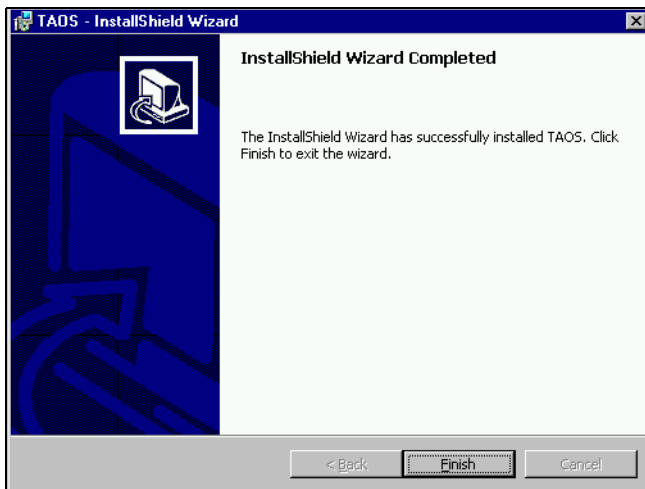

Figure 7-12 Click Finish.
13. Click **Finish** to complete the installation (Figure 7-12).